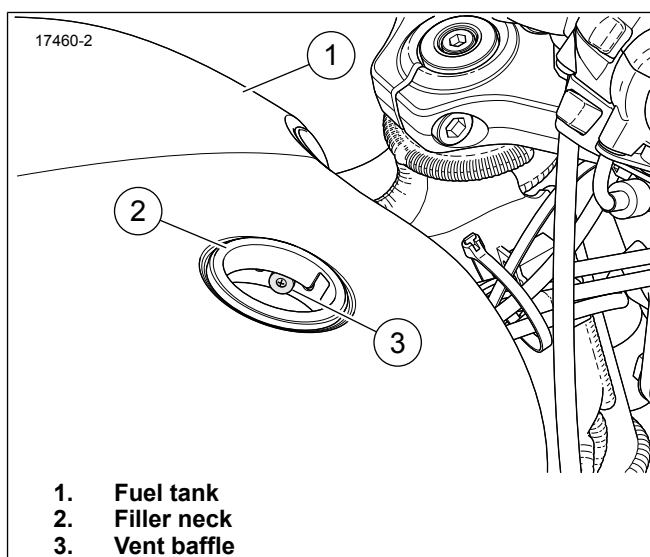

Figure 1. Vent Baffle
4. See Figure 1. Remove the vent baffle (3) from the filler neck (2).